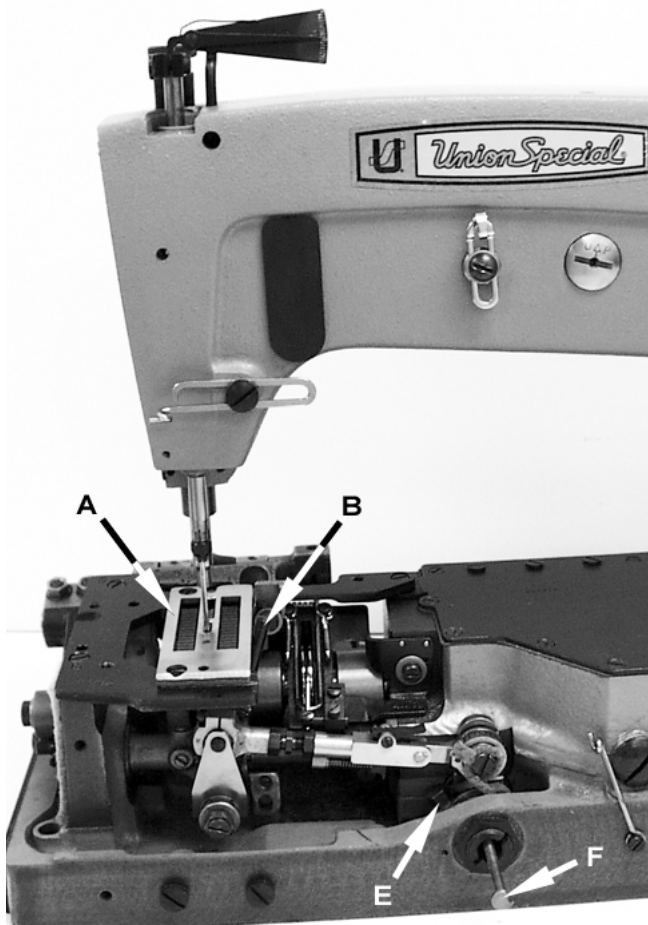

Fig 3
Remove the throat plate, feed dog, looper and needle thread take-up wire, (also called strike-off wire). Fig 3 Using gauge set TT34, re-attach the throat plate (A) to the throat plate support with the throat plate screws. Insert the pin (B) into the hole for the looper and tighten with its screw. Turn the handwheel in operating direction, (towards the operator), until the pin lightly touches the right edge of the throat plate. Insert the indicator (C) into the hole for the needle thread take-up wire, and move it up or down until the pointer (D) on the indicator reads at "0", and then tighten the screw. Now turn the handwheel in opposite of operating direction (away from the operator), until the pin again lightly touches the right edge of the plate. If the machine is synchronized the pointer on the indicator should again read "0". If the pointer is above or below the "0", the machine is out of synchronization. A variation of one line is allowable.